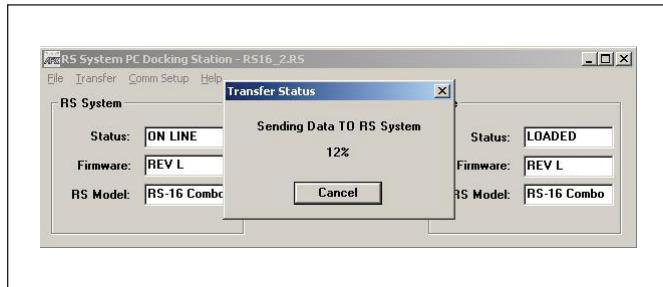

Figure 11. Data Transfer from Selected File to Power Center PCB
3. To transfer the setup data from the selected file to the Power Center PCB, click **To RS System**. The setup data will take approximately 30 seconds to load. The Transfer Status dialog box opens during the data transfer (see Figure 11).